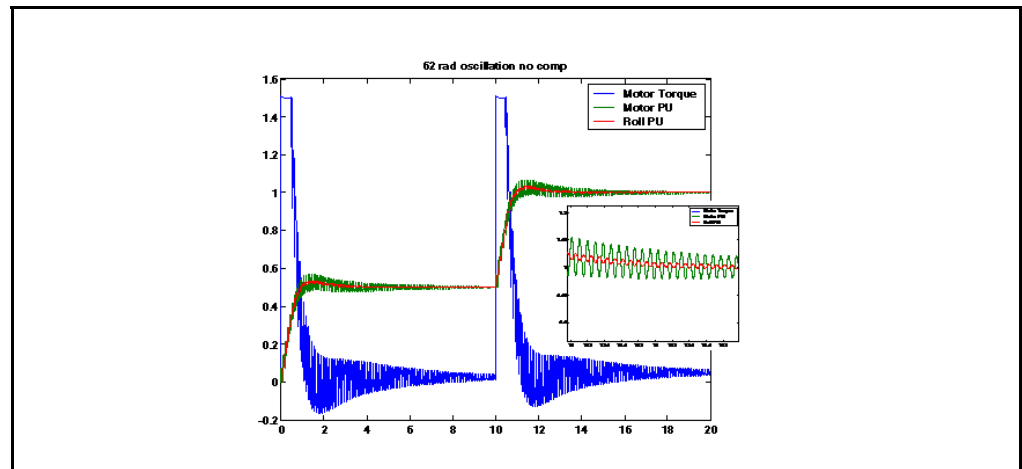
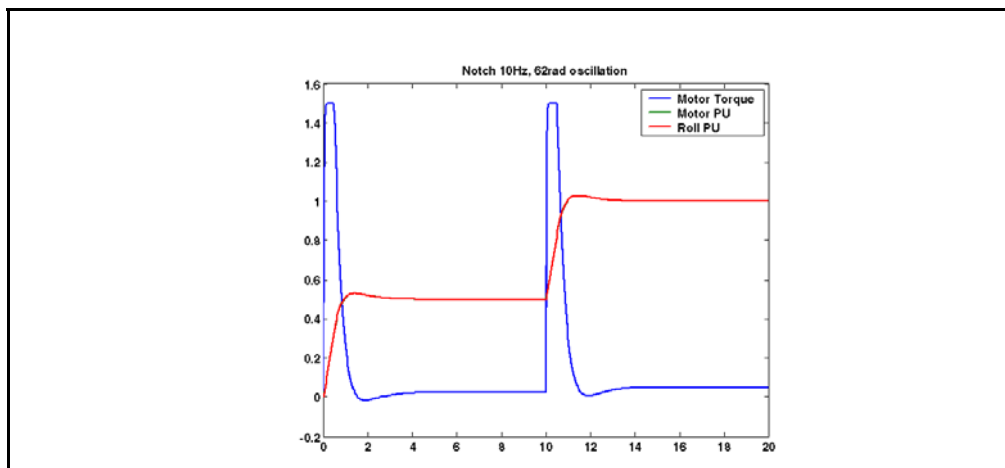

Figure 13.26 – Resonance
Figure 13.27 – 10 Hz Notch
Figure 13.26 shows a two mass system with a resonant frequency of 62 radians/second (9.87 Hz). One Hertz is equal to 2π radians/second.
Figure 13-27 shows the same mechanical gear train as Figure 13-26 Notch Filter Freq (419) is set to 10.